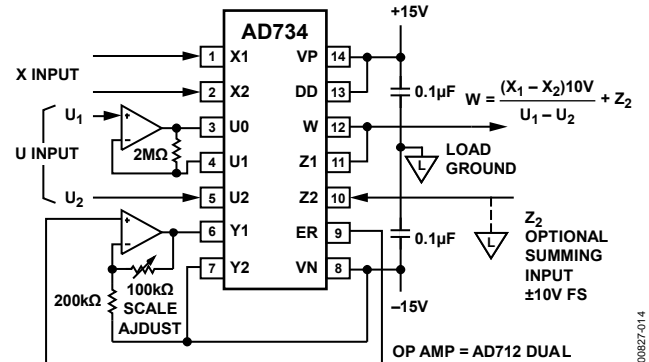

Figure 31. Two-Quadrant Divider with Fixed 10 V Scaling
in Figure 31, where a fixed numerator of 10 V is generated for a divider application. Y₂ is tied to VN, but Y₁ is 10 V above this; therefore, the common-mode voltage at this interface is still 5 V above VN, which satisfies the internal biasing requirements (see Table 1).
Where a numerator of 10 V is needed, to implement a two-quadrant divider with fixed scaling, the connections shown in Figure 31 can be used. The reference voltage output appearing between Pin 9 (ER) and Pin 8 (VN) is amplified and buffered by the second op amp, to impose 10 V across the Y1/Y2 input. Note that Y2 is connected to the negative supply in this application. This is permissible because the common-mode voltage is still high enough to meet the internal requirements.